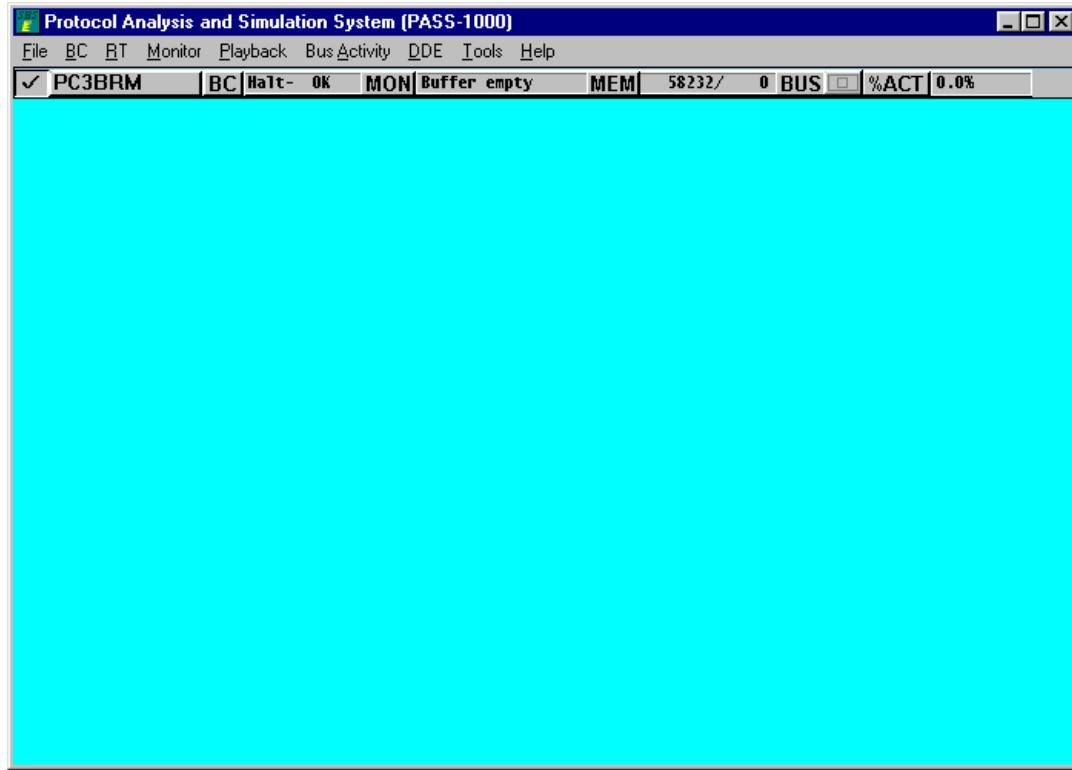

Figure 3.2.1: PASS-1000 Window
3. From the group of icons, choose the PASS-1000 icon by double-clicking the icon, or use the arrow keys to move the selection cursor to the icon and then press ENTER. The PASS-1000 window shown in Figure 3.2.1 will appear.
When the PASS software is started, it checks for a valid *passopen.ini* file. If one exists, the PASS is opened and initialized with values from the file. If a *passopen.ini* is not found, the PASS software opens to the main window as shown in Figure 3.2.1.